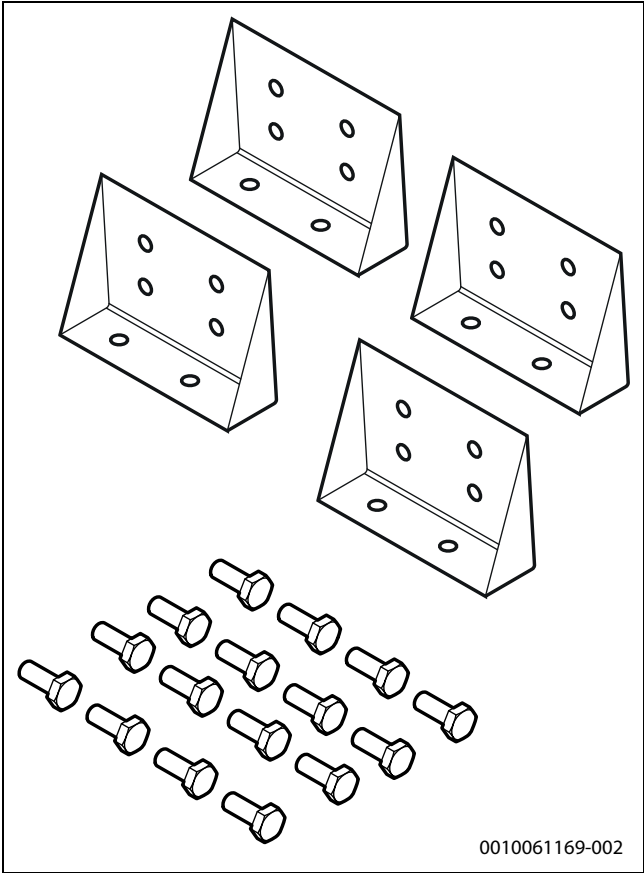

Fig. 32 Floor mounting bracket BBW 22-42
- [D] Floor mounting bracket BBW 22-42 → Fig. 32, page 20